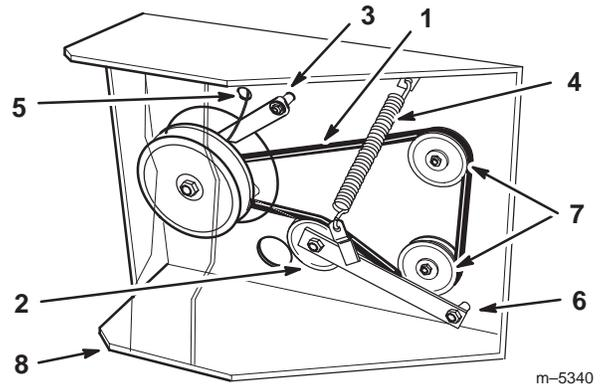

Figure 63
- Remove clutch retainer from the engine deck (Fig. 63).
- Unhook tension spring from side of frame (Fig. 63).
- Torque pivot bolt to 35-40 ft. lb. (47-54 N.m). Install tension spring between idler arm and frame bracket (Fig. 63).
- Install clutch retainer to the engine deck (Fig. 63).